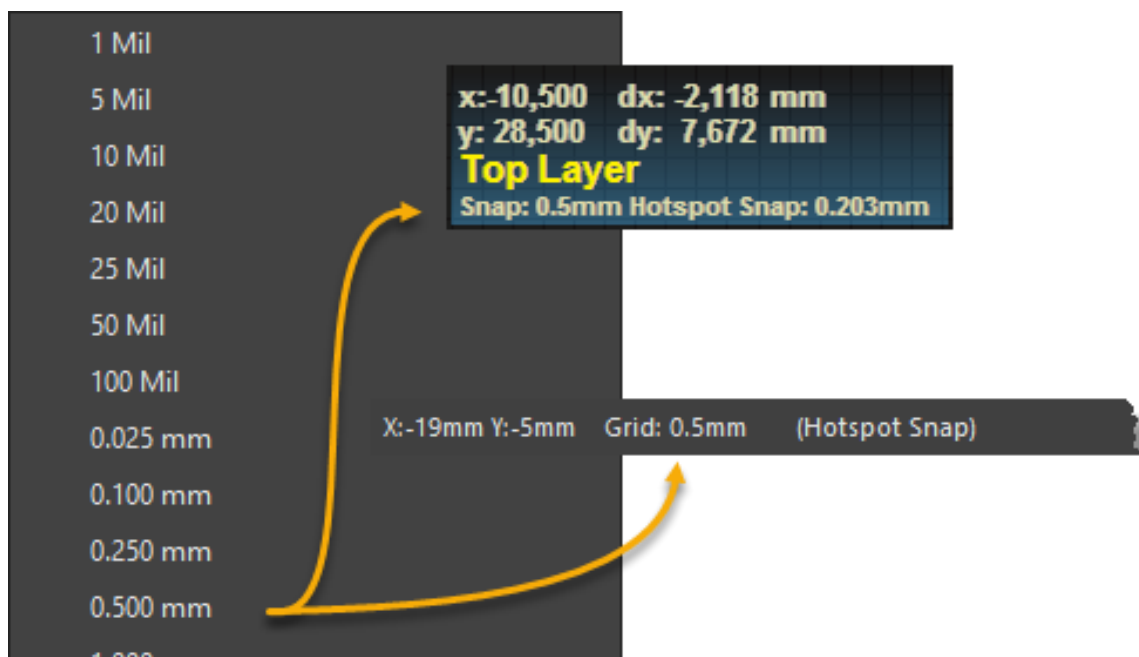

Figure 1. Grid selection dialog
12. Select one of the predefined values. The visible grid will change in the PCB. The selected value will show in the Status Bar and the Heads-Up Information, as shown in Figure 1 below.
13. Press **Q** to toggle the used Unit between Metric (mm) and Imperial (Mil). You can see the used Unit in the Status Bar and the Heads-Up Information as shown in Figure 1 below. Be aware of changing the Unit does not change the Grid Value.